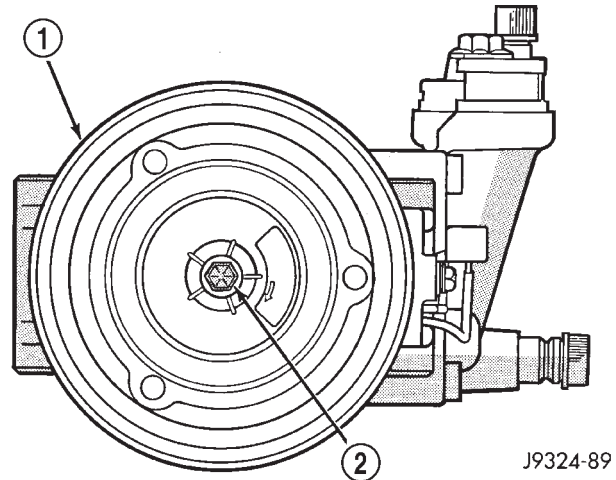

Fig. 5 Compressor Shaft Bolt
(1) Disconnect and isolate the battery negative cable.
(2) Remove the serpentine drive belt. Refer to Group 7 - Cooling System for the procedures.
(3) Remove the bolt that secures the compressor clutch to the compressor shaft (Fig. 5). A band-type oil filter wrench may be used to secure the clutch during bolt removal.